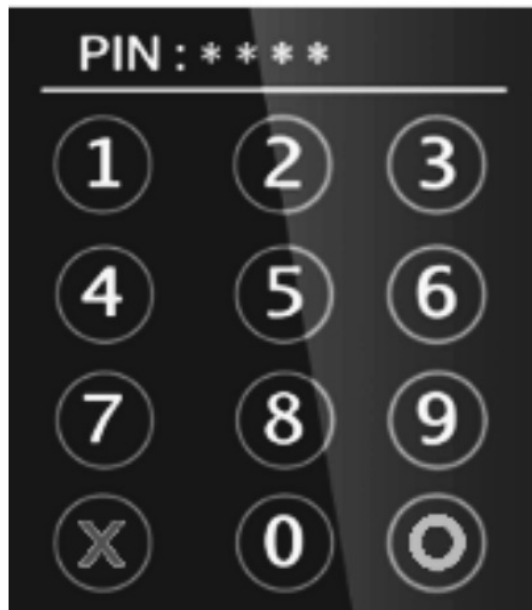

Figure 5
After inserting the chip card, press the numeric keys of the virtual keypad (Figure 5, as reference) shown on the display to enter the password. Press Cancel (X) key to terminate any current function and press the Enter (O) key to confirm a value or an option.